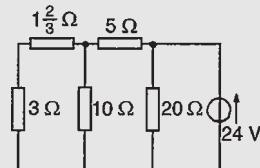

Figure 13.60
**Problem 16.** Use Norton's theorem to determine the current flowing in the  $3\Omega$  resistance of the network shown in Fig. 13.60. The voltage source has negligible internal resistance.